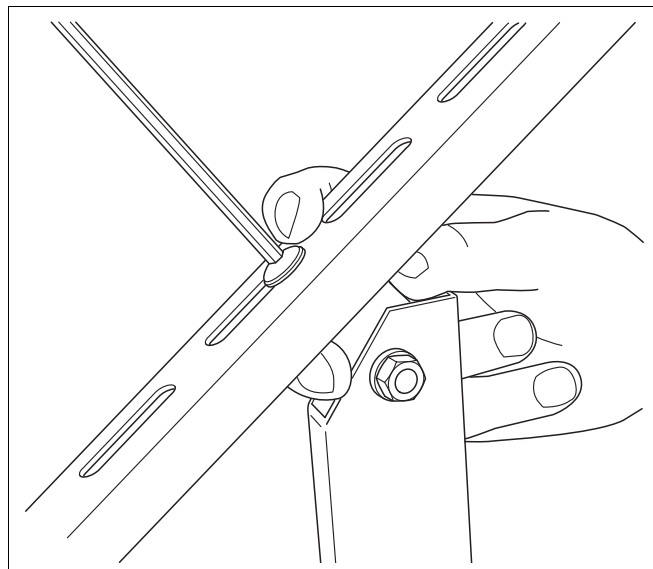

Fig. 14 Securing the brace on the collector support
- Secure the brace (Fig. 14) in the upper end-stop of the slot using the pan-head screw.